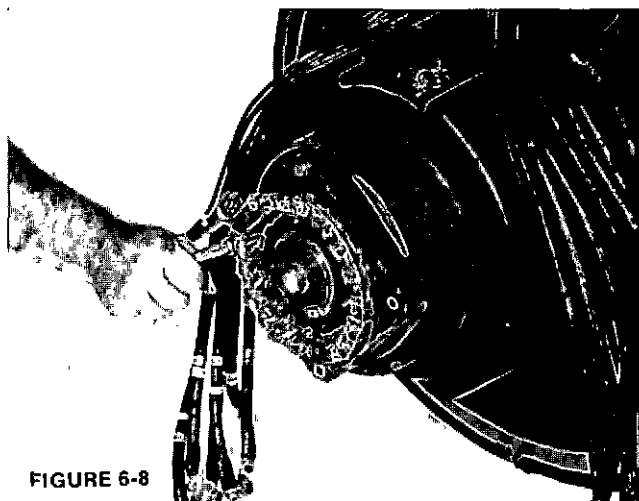

FIGURE 6-8
1. Remove the PMG leads (Figure 6-8) and loosen all cable ties so the leads can be removed with the PMG stator.